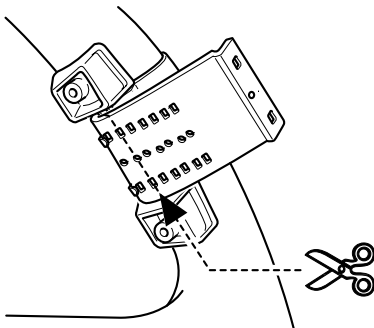

Fig. 9
2. Cut the extra portion of the belt at the center of the inner holder. (Fig. 9)